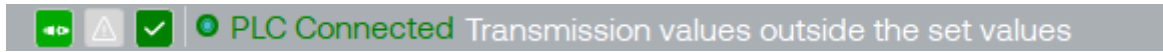

Figure 10: Info bar
At any time, while the application is running, there will be an info bar at the bottom (see figure 10).
**Other warnings:** for other warnings a specific text with the warning will be displayed, problems in the communication, problems taking references or measures, or problems extracting data from transmission chart (that is the case of the Figure 10 text "Transmission values outside the set values" that indicates that transmission values taken can not be used to calculate the particle size or wavelength exponent, usually due to a too noisy transmission chart).